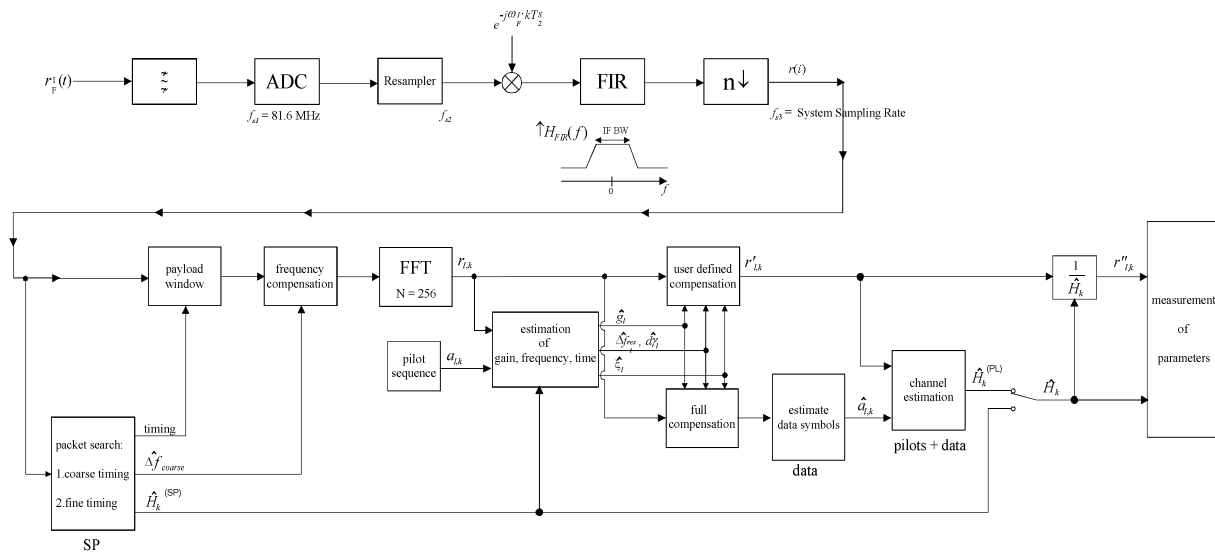

Fig. 113 Signal processing of the IEEE802.16 OFDM measurement application
A diagram of the interesting blocks is shown in Fig. 113. First the RF signal is downconverted to the IF frequency $f_{IF} = 20.4$ MHz. The resulting IF signal $r_{IF}(t)$ is shown on the left-hand side of the figure. After bandpass filtering, the signal is sampled by an Analog to Digital Converter (ADC) at a sampling rate of $f_{s1} = 81.6$ MHz. This digital sequence is resampled to the new sampling frequency of $f_{s2} = 80$ MHz which is a multiple of the Nyquist rate (20 MHz). The subsequent digital downconverter shifts the IF signal to the complex base band. In the next step the base band signal is filtered by a FIR filter. To get an idea, the rough transfer function is plotted in the figure. This filter fulfils two tasks: first it suppresses the IF image frequency, secondly it attenuates the aliasing frequency bands caused by the subsequent downsampling. After filtering, the sequence is sampled down by the factor of 4. Thus the sampling rate of the downsampled sequence $r(i)$ is the Nyquist rate of $f_{s3} = 20$ MHz. Up to this point the digital part is implemented in an ASIC.
In general, the coarse frequency estimate $\hat{\Delta f}_{\text{coarse}}$ (see Fig. 113) is not error-free. Therefore the remaining frequency error Δf_{rest} represents the not yet compensated frequency deviation in $r_{l,k}$. Consequently the overall frequency deviation of the device under test (DUT) is calculated by $\Delta f = \hat{\Delta f}_{\text{coarse}} + \Delta f_{\text{rest}}$. Remark: The only motivation for dividing the common phase drift in equation (2) into two parts is to be able to calculate the overall frequency deviation of the DUT.